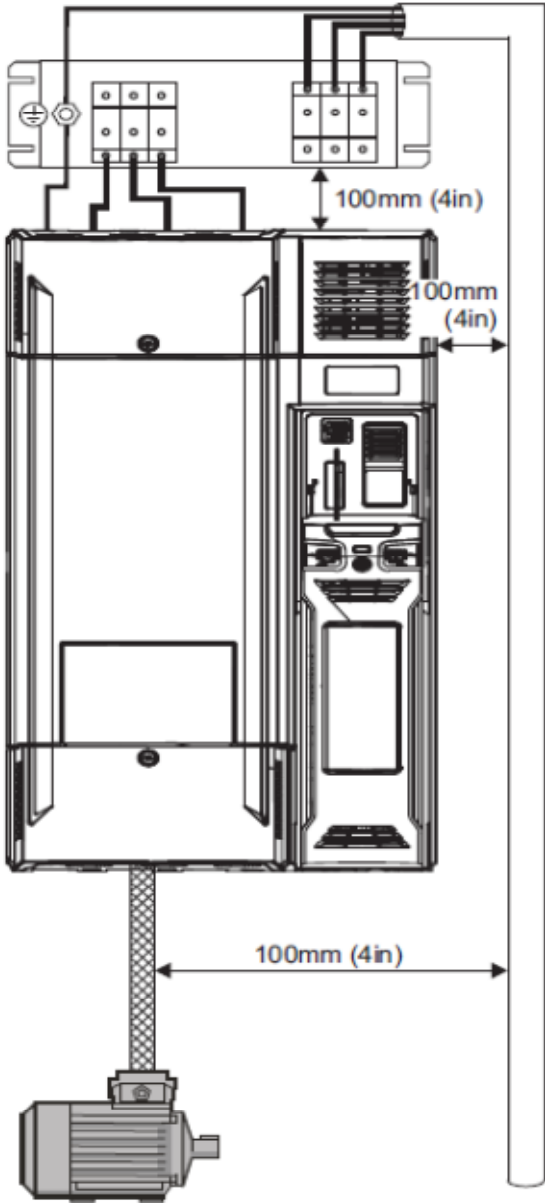

Figure.4 Wire spacing
4. The AC supply connections must be kept at least 4in (100mm) from the drive, motor cable and braking resistor cable (see *fig.4*).